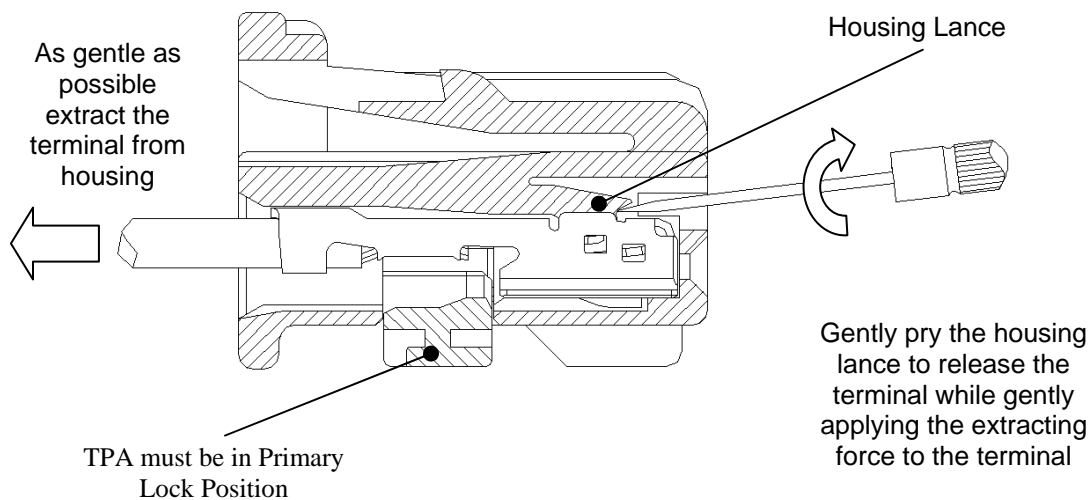

Figure 20. Release of the Female Terminal
- c) To extract the female terminal from the housing, the operator must use a 0.8mm flat screwdriver and insert the screwdriver into the position to release the housing lance as shown in Figure 20.
- d) Gently pry the housing lance so it is lifted just enough to release the terminal and apply enough force to remove the terminal from the housing. See Figure 20.